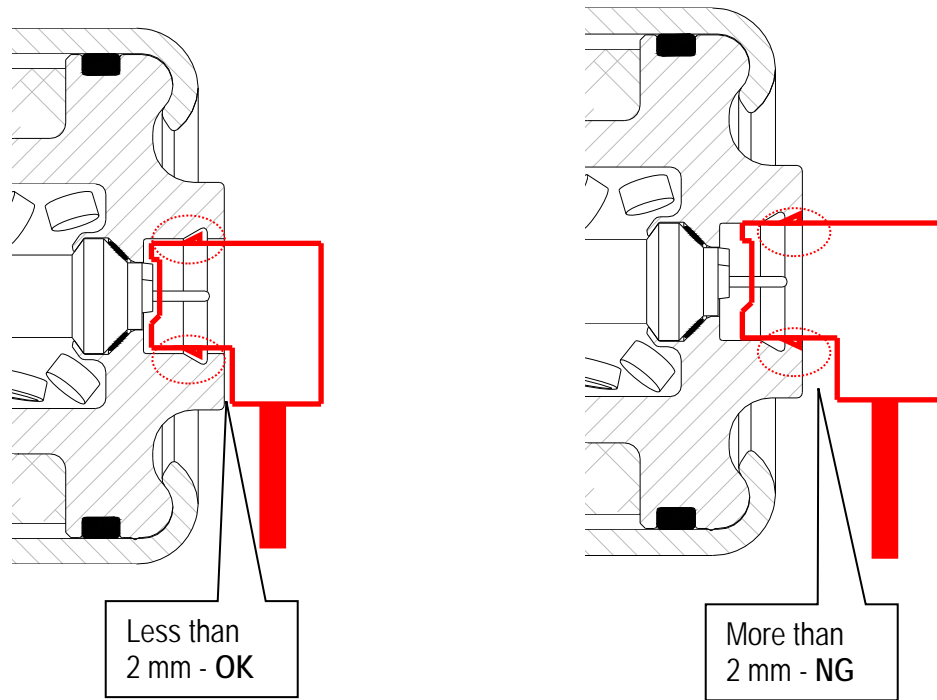

Figure M20
- Make sure the harness connector is fully engaged / seated (see Figure M20).